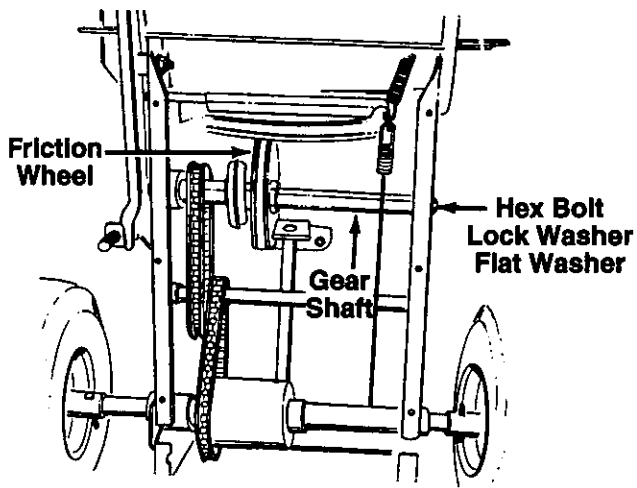

FIGURE 17.
4. Remove the gear shaft from the unit by removing the hex bolts, lock washers and flat washers from each side of the frame. See figure 17. Hold the friction wheel assembly, and slide the gear shaft out of the unit toward the right side.